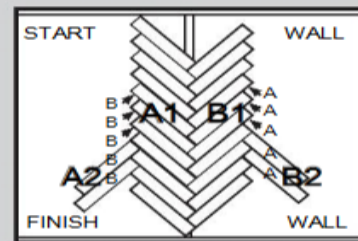

Fig 7.
- Start at the finish wall and slide the end joint of a "B" plank into the side of an "A" plank. Slide the "B" plank back into the end of the "A" plank at a slight angle until tight (Fig 7.).